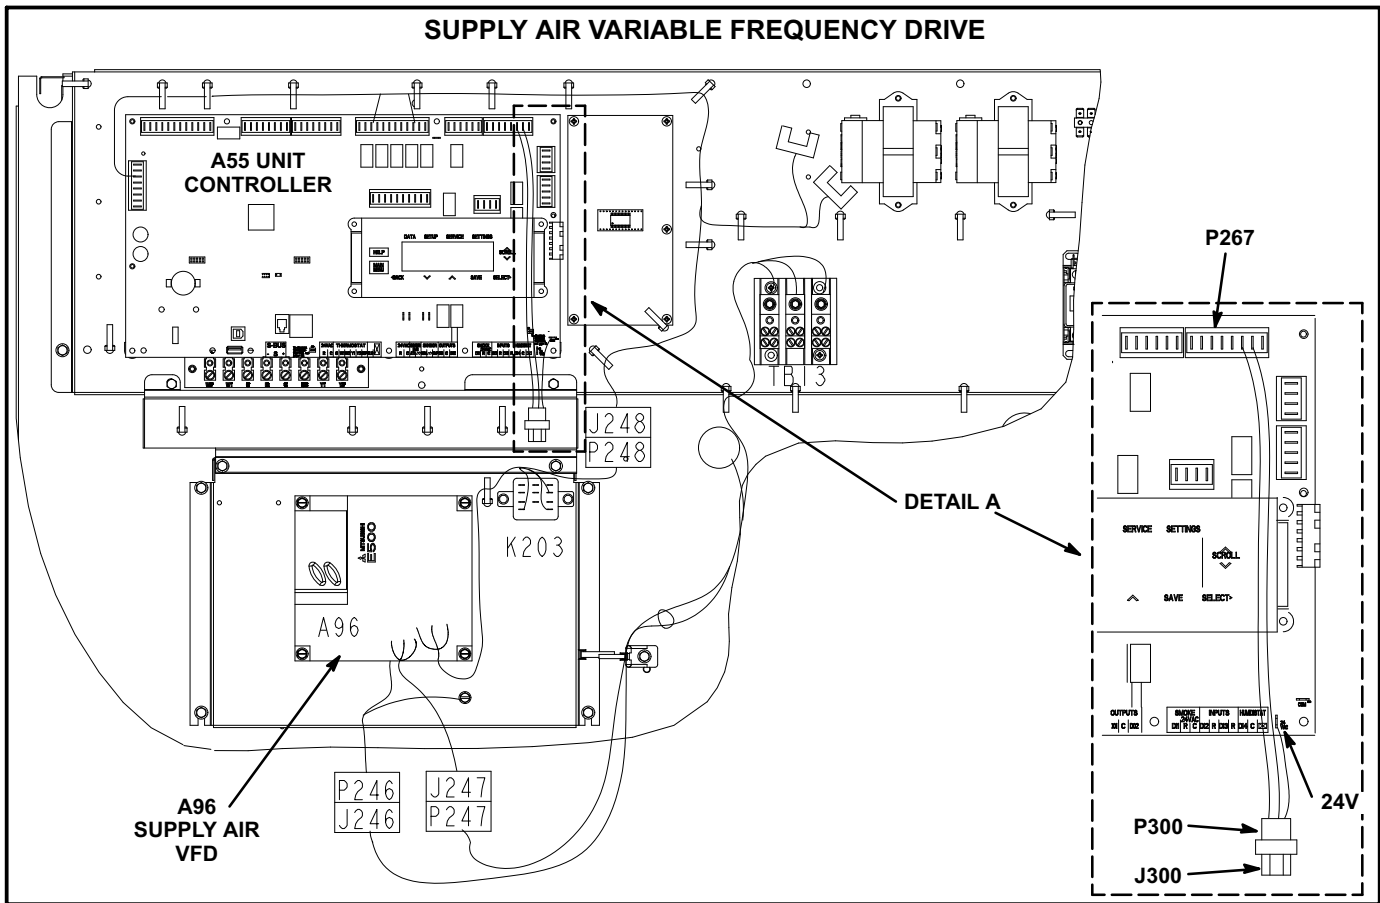

FIGURE 2
The supply air VFD (A96) is located near the compressors. See figure 2.
4. Locate the A55 Unit Controller. Refer to figure 2.